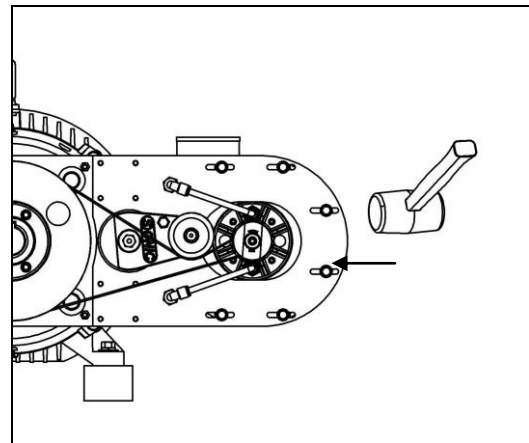

Figure 22 - Adjust Belt Gap
11. If a $\frac{3}{4}$ inch belt gap was not achieved, use a $\frac{1}{2}$ inch socket to loosen the blower head screws and slide the head. (See Figure 22)